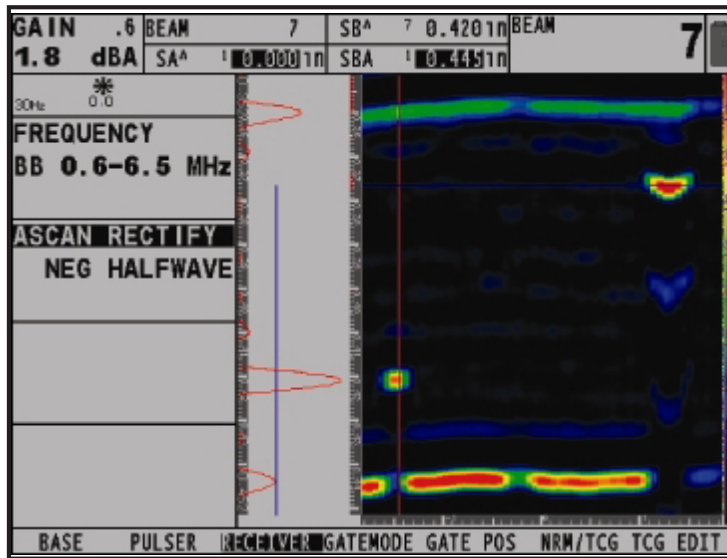

Figure 17: Image with negative rectification
*Radio Frequency (RF)* signal has a negative component below the axis, and a positive component above the axis. In RF mode, the A-gate and B-gate can be positioned either above or below the axis, to be triggered by a positive-heading echo or a negative-heading echo. In the frame view image, both the negative and positive components are displayed.
*Negative Half Rectification* means that only the bottom (negative) half of the RF signal is displayed. In the frame view image, only the negative component is displayed (Figure 17 on page 38).